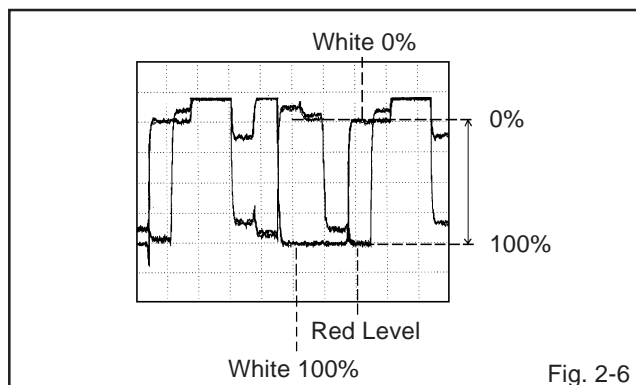

Fig. 2-6
7. Press the VOL. UP/DOWN button on the remote control until the red color level is adjusted to $100 \pm 5\%$ of the white level. (**Refer to Fig. 2-6**)